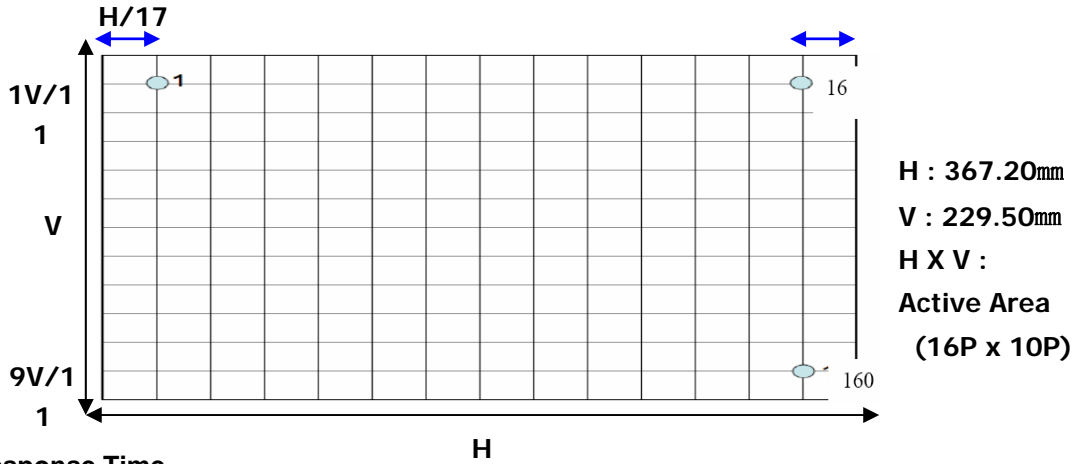

FIG. 3 Response Time
2. Response time is the time required for the display to transition from white to black (rise time,  $Tr_R$ ) and from black to white(Decay Time,  $Tr_D$ ). For additional information see FIG 3.